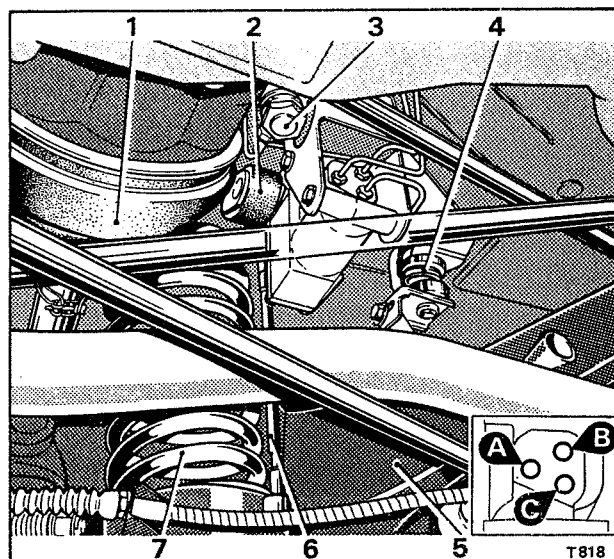

Fig. G23m Height control valve (left-hand shown)
**Height control valve - To remove (see Fig. G23m)**